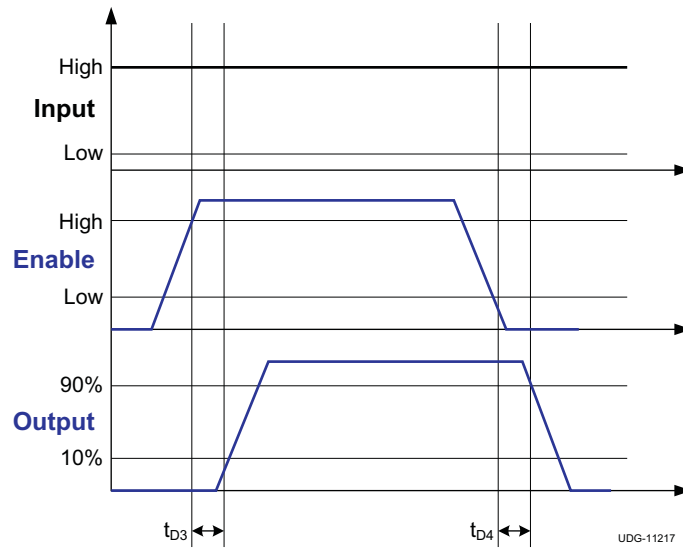

Figure 1. Enable Function
(1) See the timing diagrams in Figure 1 and Figure 2